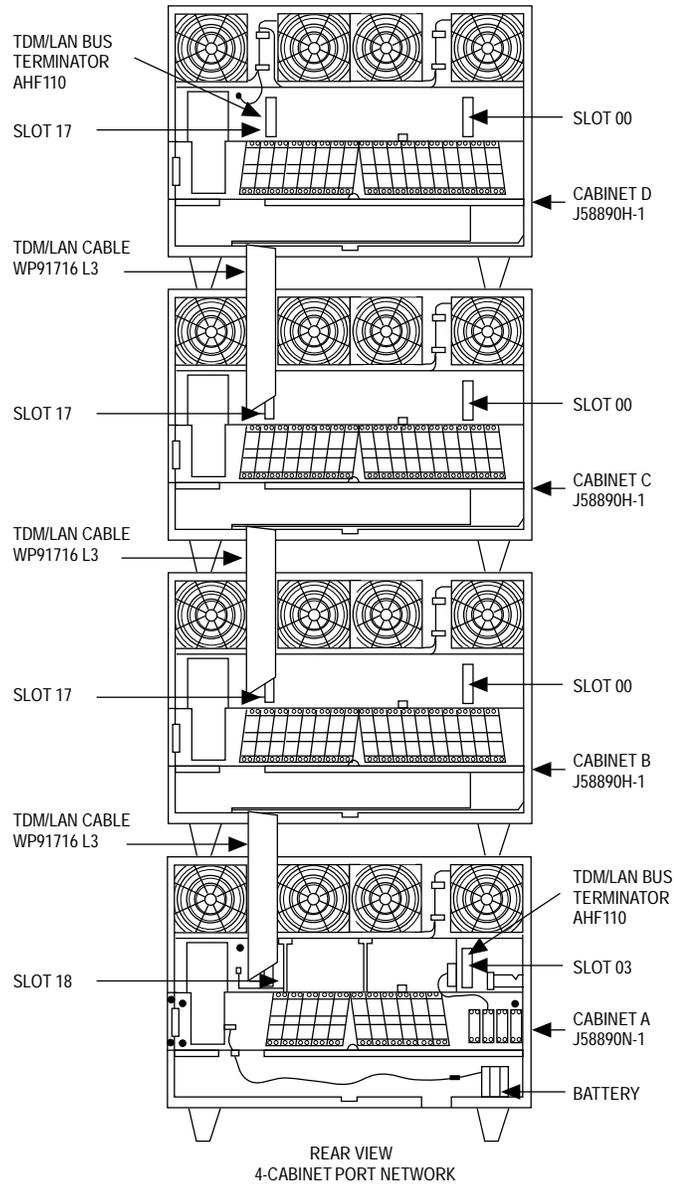

FIGURE 7-6. TDM/LAN Bus Connections PPN Without Duplication
2. Disconnect TDM bus terminator (Figure 7-6, 7-7, or 7-8) from slot 18 of the control cabinet or slot 17 of the port cabinet and move to slot 17 of the top port cabinet.
3. Connect TDM/LAN bus cables (see Figure 7-6, 7-7, or 7-8). The TDM bus cable is located behind the lower rear panel.